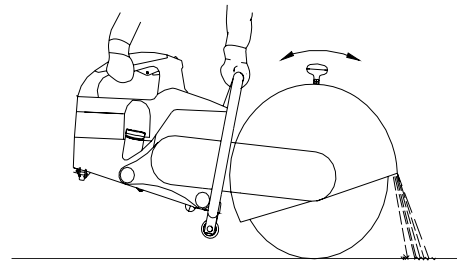

Fig. 2
5. Check to make sure the blade guard has no visual damage. Adjust the guard as necessary so the spark beam generated during cutting can be directed away from the operator (Ref. Fig. 2).